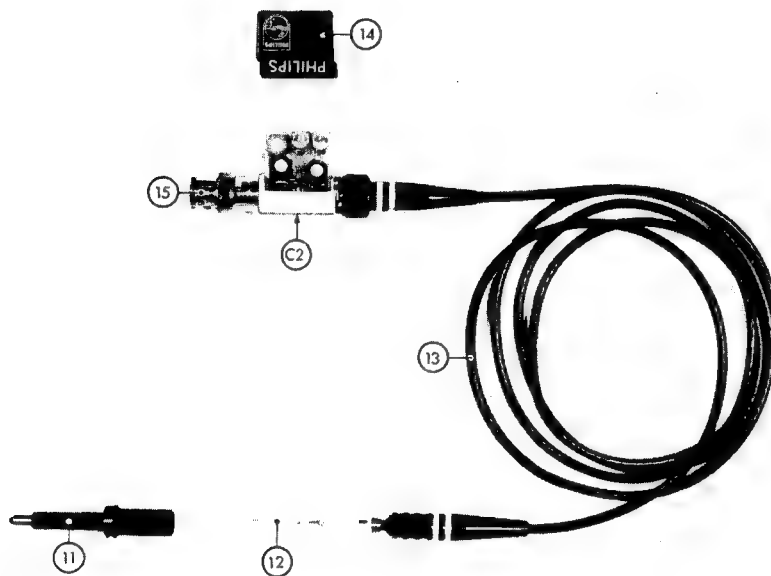

Fig. 3.30. Dismantling
Dismantling the probe (see Fig. 3.30)
Dismantling the compensation box (see Fig. 3.30)
3.5.1.5.1. Mechanical parts (see Fig. 3.30 and 3.31)